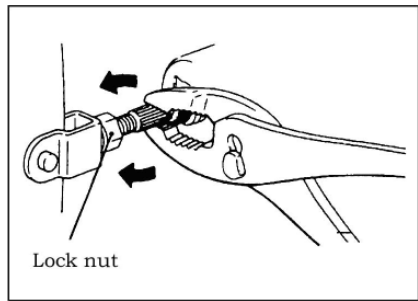

Fig. 16-2
- ③ If the brake pedal height is not within the standard value, adjust as follows.
- c. Adjust the brake pedal height by turning the operation rod with pliers (with the operation rod lock nut loosened) until standard value brake pedal height is obtained (see Fig. 16-2).